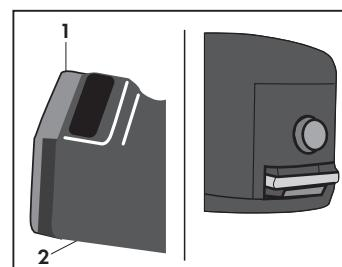

Fig. 9
- Close the door (1) to the accessory socket (Q) so that it rests on the body of the quick connection (2) and check that the two elements are properly engaged (**Fig. 9**).